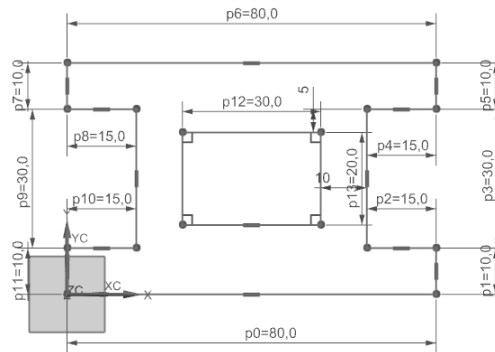

Figure 2-54 Final sketch for Tutorial 1
5. Press the ESC key to exit the tool. The final sketch for Tutorial 1 is shown in Figure 2-54.